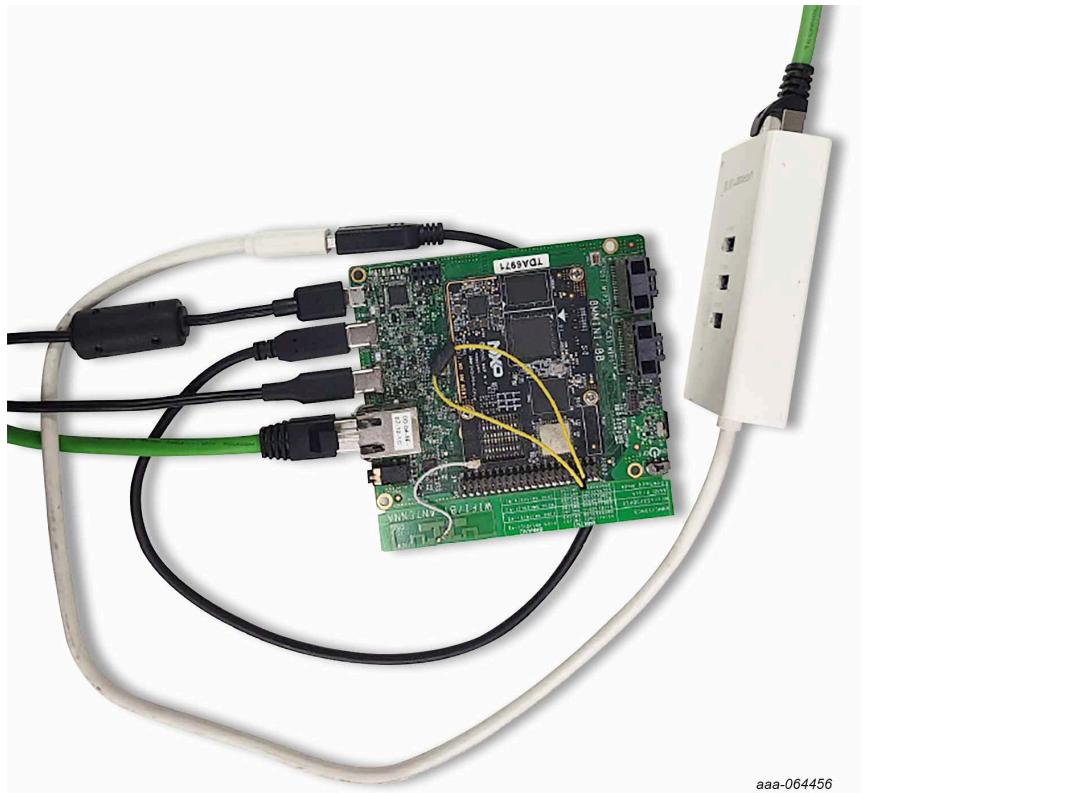

Figure 8. i.MX 8M Mini board connection
– Figure 8 describes the i.MX 8M Mini board connection.